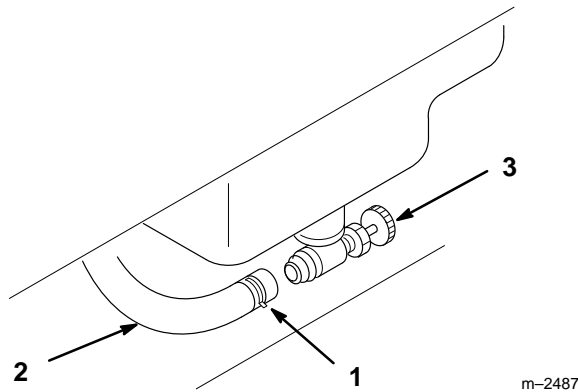

Figure 38
3. Loosen the hose clamp and slide it up the fuel line away from the fuel shut-off valve (Fig. 38).
4. Pull the fuel line off the fuel shut-off valve (Fig. 38). Some fuel will flow out from the hose as it is disconnected from the valve. Attach a 5/16 ID hose to the valve to help drain the fuel into the container. Open the valve and allow gasoline to drain into a gas can or drain pan.
5. Install the fuel line onto the fuel shut-off valve. Slide the hose clamp close to the valve to secure the fuel line (Fig. 38). The fuel shut-off valve should normally be left open, except for service on the fuel system or when the tractor is transported on a trailer.